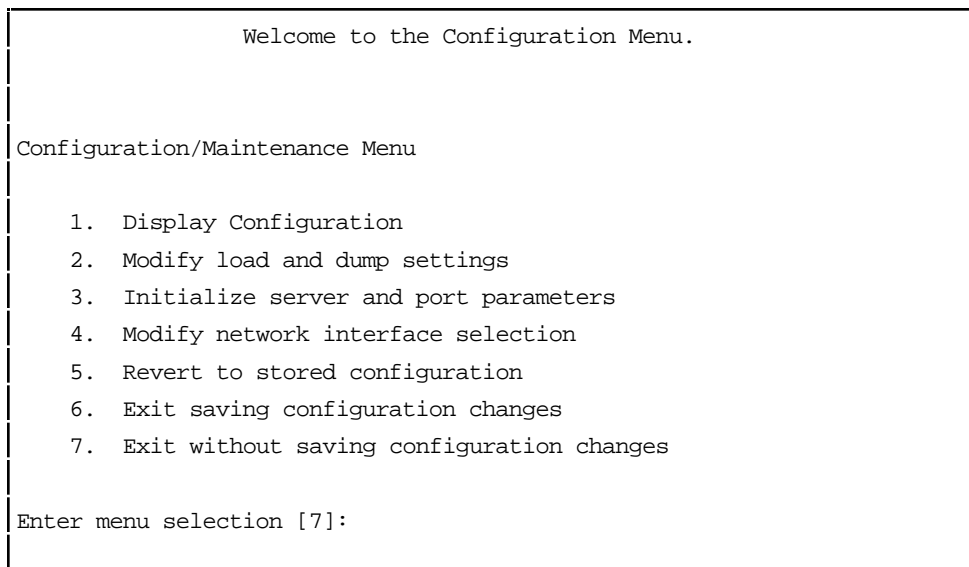

Figure 4-1. MAXserver 6025 Main Configuration Menu
6. Enter the password ACCESS (note that there is no prompt). The main Configuration menu, shown in Figure 4-1, appears on the screen.